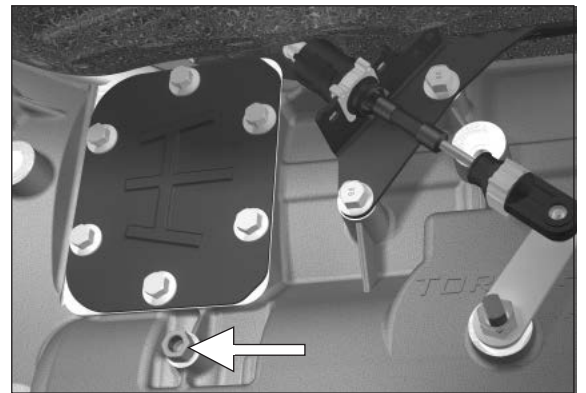
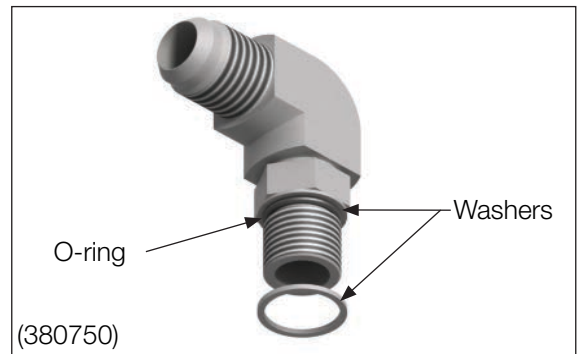

Figure 22
Figure 23
3. Remove the plug from the transmission pressure port (**Fig. 22**) and install fitting in the opening (**Fig. 23**).
**IMPORTANT:** Both Washers and the O-ring must be present at installation. The second Washer must fit around the O-ring for proper seal (**Fig. 23**).
380750 90-degree Adapter Fitting (1 each) (**Fig. 23**).